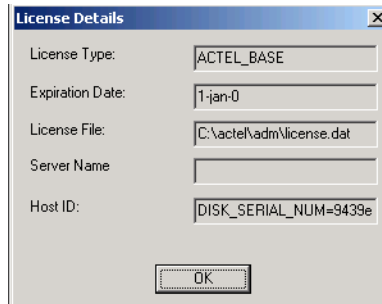

Figure 2-51. License Details Dialog Box
2. **From the help menu, click *License Details*.** The license details dialog box is displayed, as shown in Figure 2-51